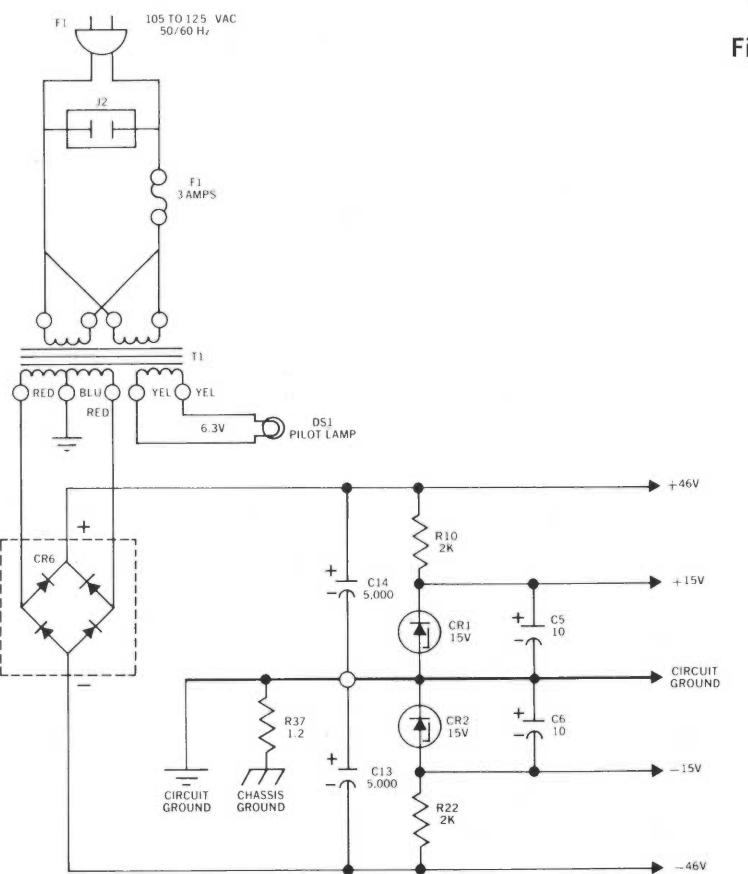

Figure 5. Amplifier Protection Circuit.
1. Insert change in following places: Figure 2, page 3; Figure 5, page 7; and Figure 14, page 21. Capacitor C8 was 0.1 μ f 250 VDC, is 0.022 μ f 100 VDC per E.C.N. 1097 and Marantz service bulletins 69-12/16-1 and 69-16/16-3.